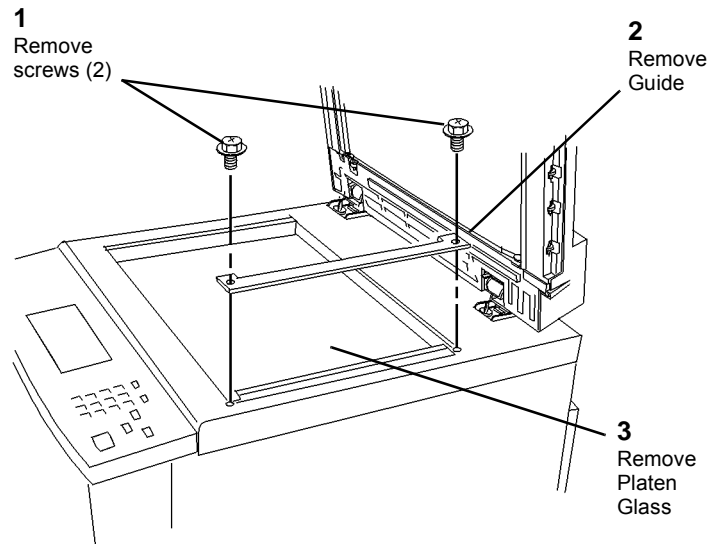

Figure 1 Removing Platen Glass
2. Remove Platen Glass (Figure 1).